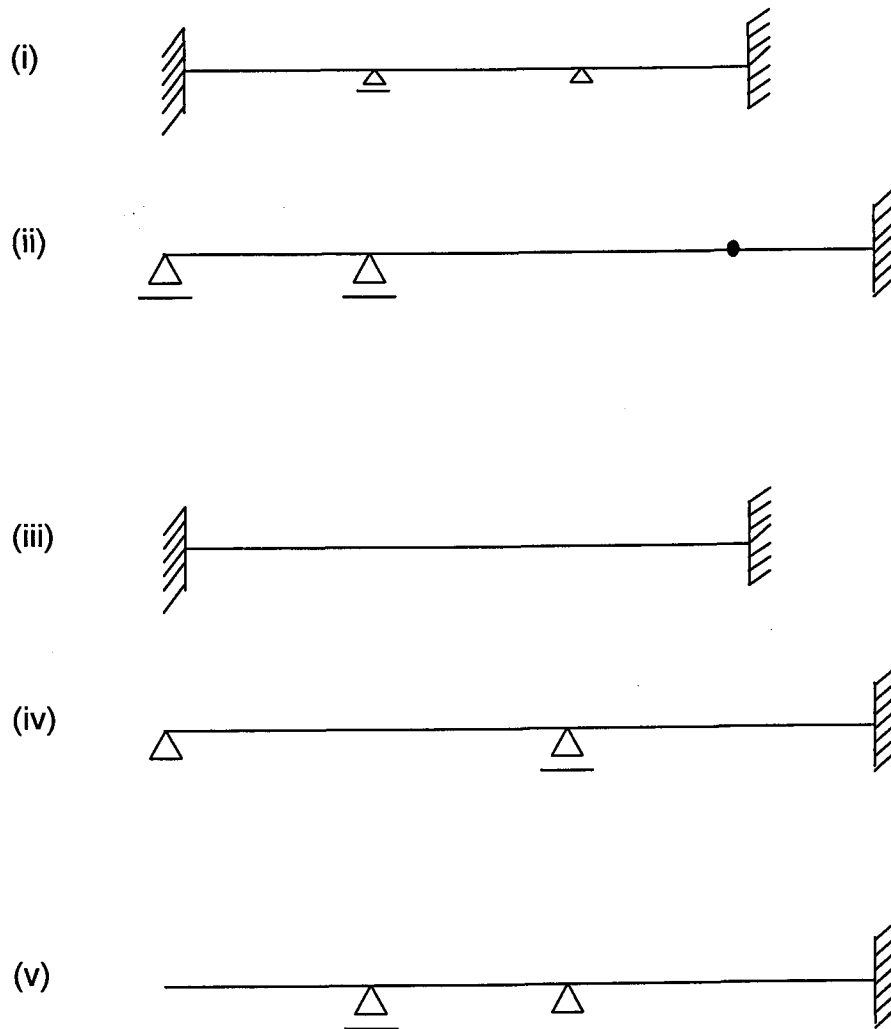

Figure 2.0/Rajah 2.0
2. (a) Calculate the indeterminacy of the following structures. (Figure 2.0)